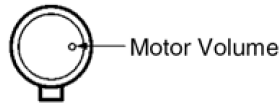

Fig. 11
3. Adjust the motor screw so that the following output level is produced. (Fig. 11)